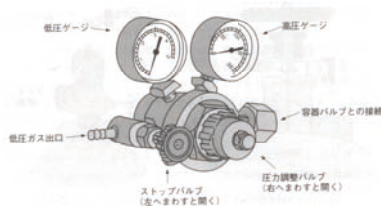

Fig. 4-2. Pressure regulator
(1) Pressure regulator (Fig. 4-2.)
- (a) Valve has two screws, right and left. (Fig. 4-2)